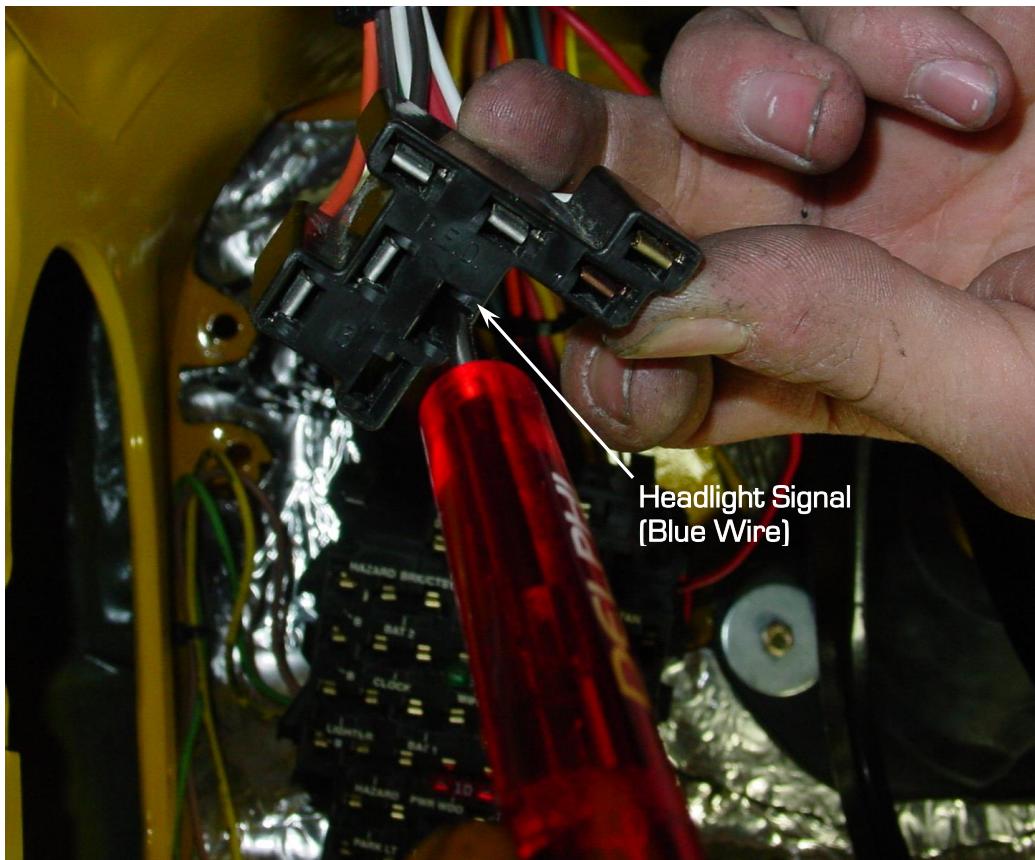

Figure 4 - Locating the Blue Wire
1. Remove the connector from the headlight switch. Locate and mark the blue wire (Figure 4). Remove the terminal from the connector using a terminal removal tool or a small flat blade screwdriver. The blue wire is the 12 volt headlamp feed.